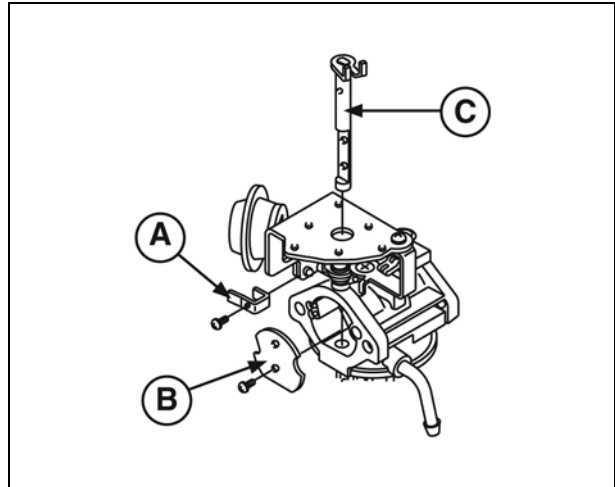

Figure 33
7. Remove screw and choke pre-load lever (A, Figure 33).